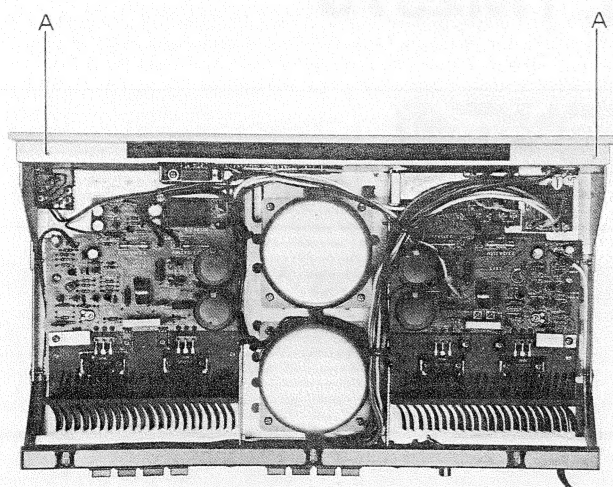

Figure 1
- (3) **Front panel removal**
Remove four screws (A) from the top and bottom as shown in Figures 1 and 2, and the front panel with push buttons can be removed.